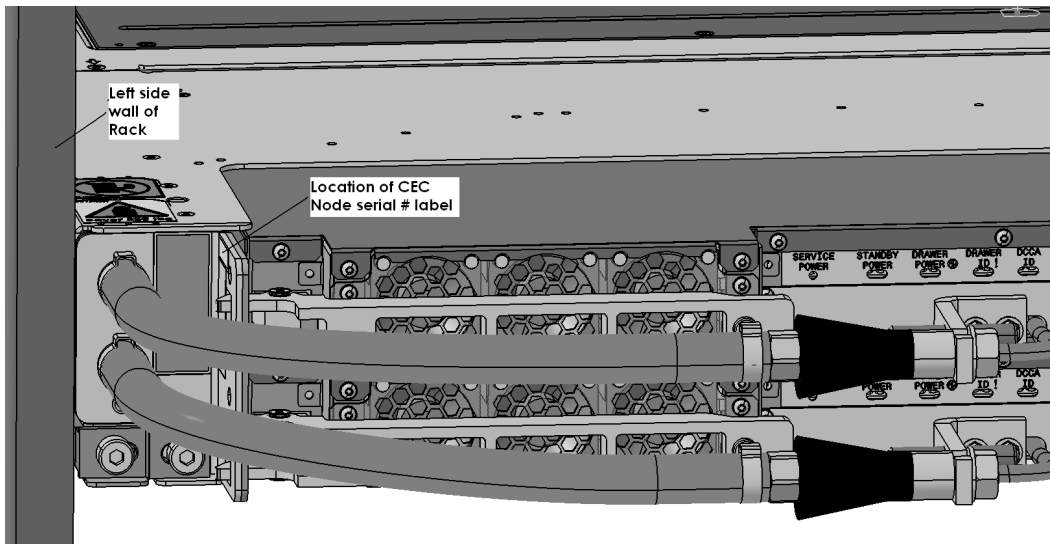

Figure 13 FRU Serial number location
- STEP 9 After locating the rack that requires the service, double check the rack serial number and the CEC Enclosure VPD serial number to ensure the correct location. See Figure 13.